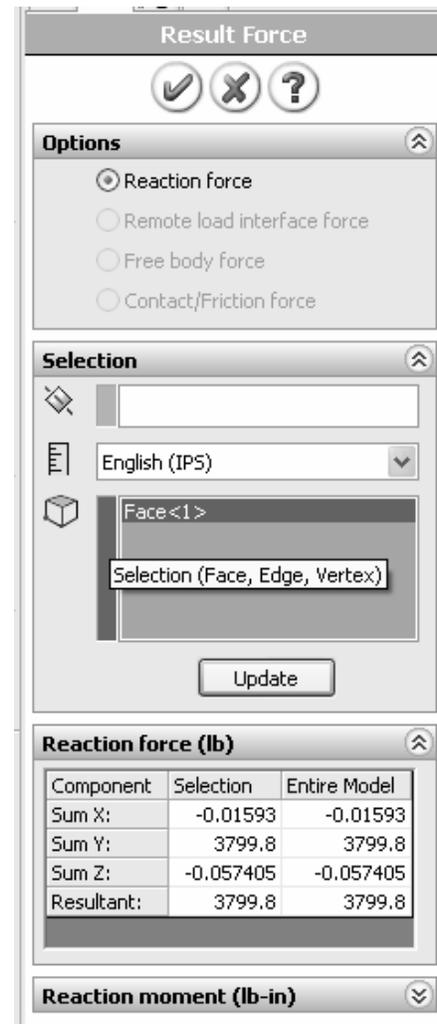

Figure 25 – Data appearing in the **Result Force** property manager.
2. From the pull-down menu, select **List Reaction Force...** The **Result Force** property manager opens as shown in Fig. 25.
It should be noted that a *moment* reaction at the base of the curved beam is missing from the **Reaction Force** table. Also, checking the **Reaction Moment (lb-in)** dialogue box, at the bottom of this column, reveals no data entries. This outcome does not agree with the usual conventions for reactions associated with a free-body diagram, but is consistent with our understanding of **Immovable** restraints applied to three-dimensional, solid, tetrahedral elements. The **Immovable** restraint only restricts translations in the X, Y, Z directions at each restrained node. This observation accounts for the fact that there are only three force reactions in the **Reaction Force** table of Fig. 25.